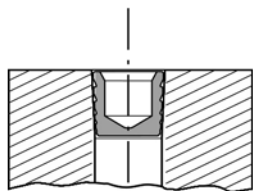

Fig. 1
- With the setting hole facing out, the LP-plug is inserted in the cone bore. The top sleeve should not be above the surface of the base material (Fig. 1).